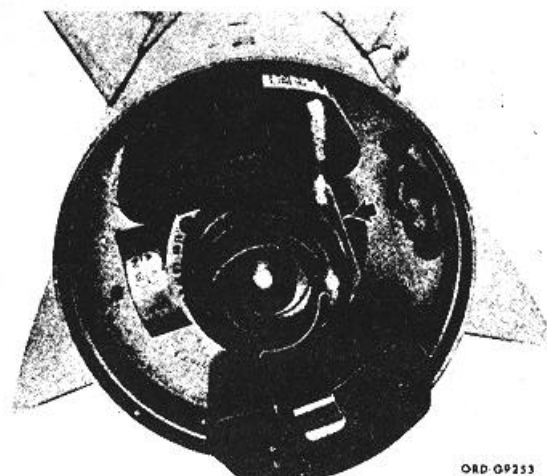

Figure 38. Arming device and piston.
c. Figure 38 indicates an armed device.